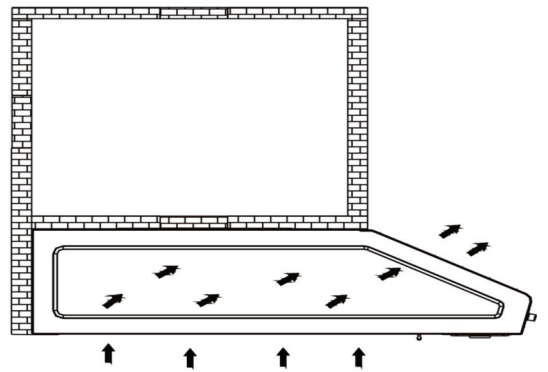
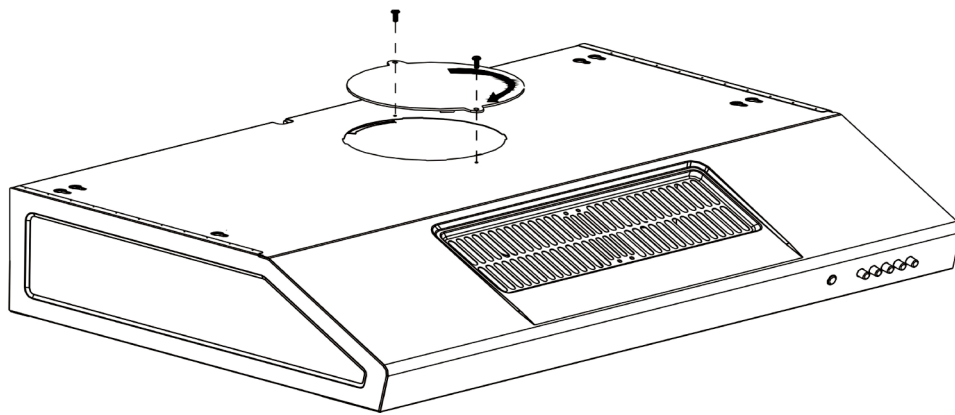

Fig 3
Fig 11
-To remove the grease filter/s (Fig.3), in line with the handle, push the stop inwards and pull the filter down.
- If the hood features a panel type charcoal filter (Fig.11), remove the charcoal filter by first of all removing the two filter retains A.
- If the hood features a panel type charcoal filter/s(Fig.11), position the charcoal filter and fit the two filter retainers to secure the charcoal filter.
Aluminum filter/s (Fig.11): there are aluminum mesh filters must be periodically cleaned, depending in extent of depending on extent of operation (at least every two months). Wash the filters with neutral detergent. To remove the filters, in line with the handle, push the stop inwards and pull the filter down (Fig.3).
-remove the charcoal filter by first of all removing the two filter retainers A.(Fig.11)